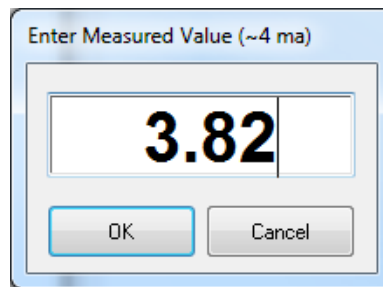

Figure 68: Low AO measured value
8. Type the measured value displayed by the ammeter (Figure 68).